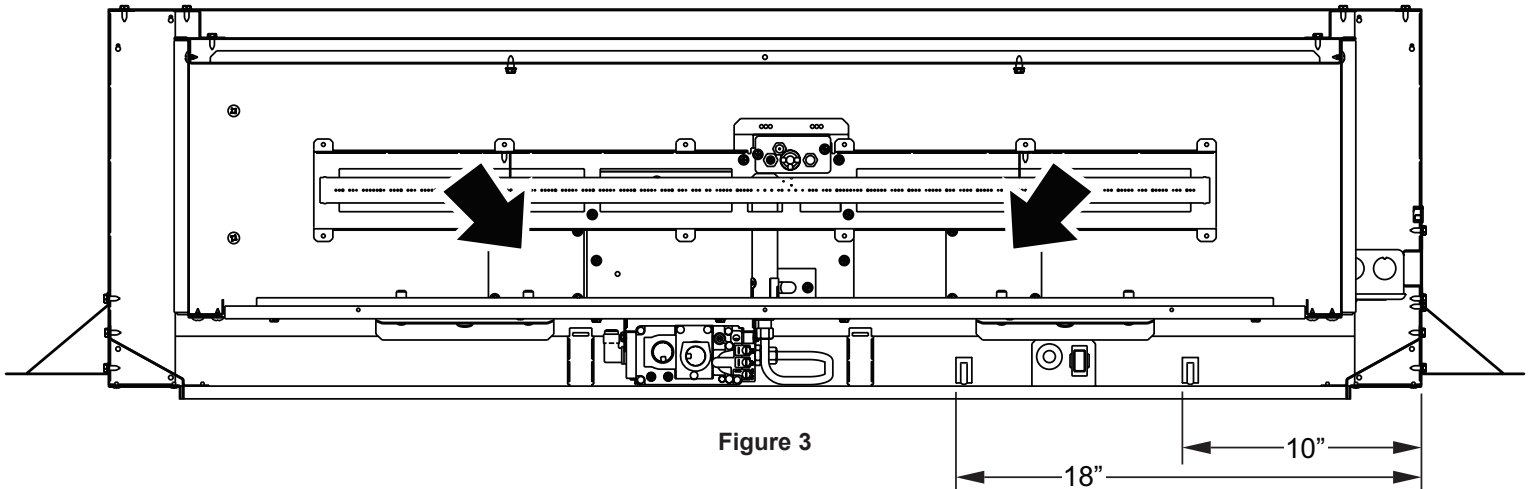

Figure 3
2. Remove cover plates from firebox floor. See Figure 3.
3. Place two self-adhesive Wire Clips approximately where shown. See Figure 3.